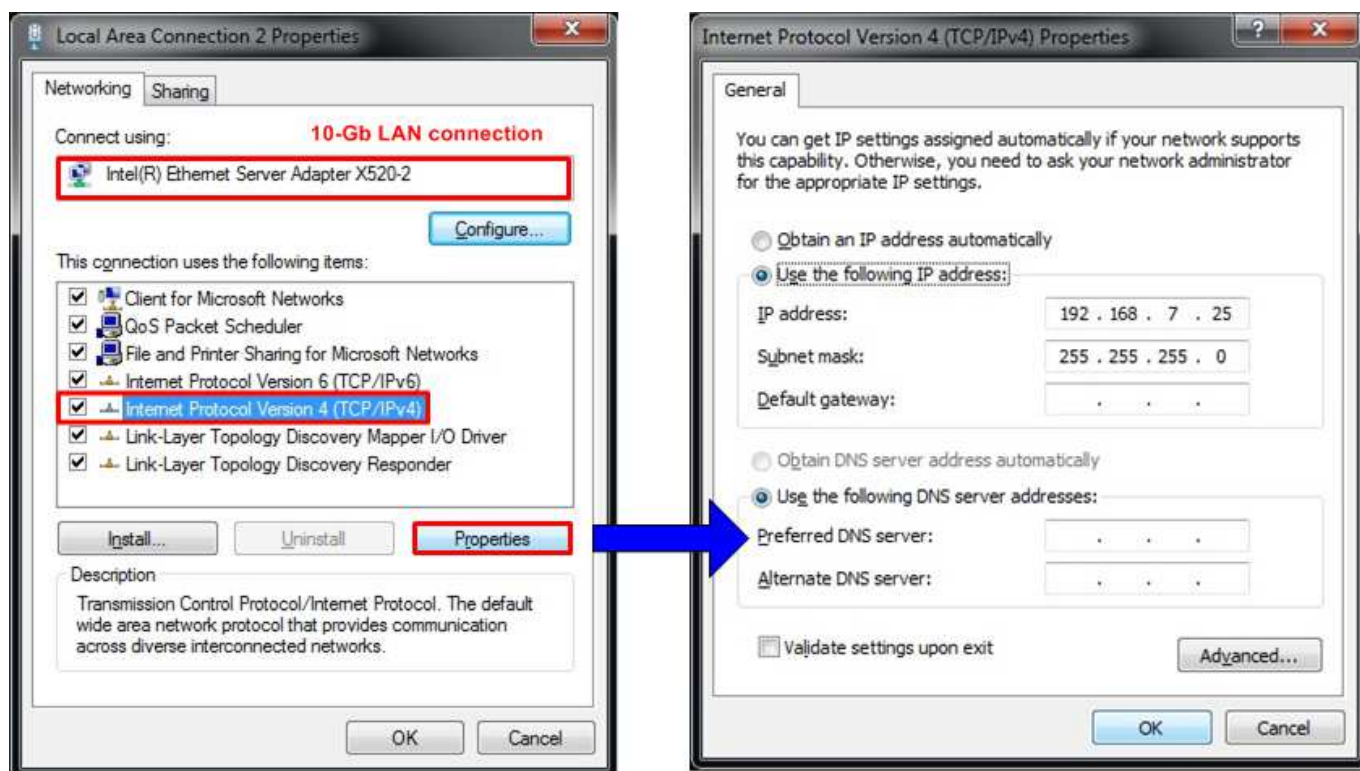

Figure 3-1 IP4 Setting
- Open Local Area Connection Properties of 10-Gb connection, as shown in left window of Figure 3-1.
- Set IP address = 192.168.7.25, and Subnet mask = 255.255.255.0, as shown in right window of Figure 3-1.